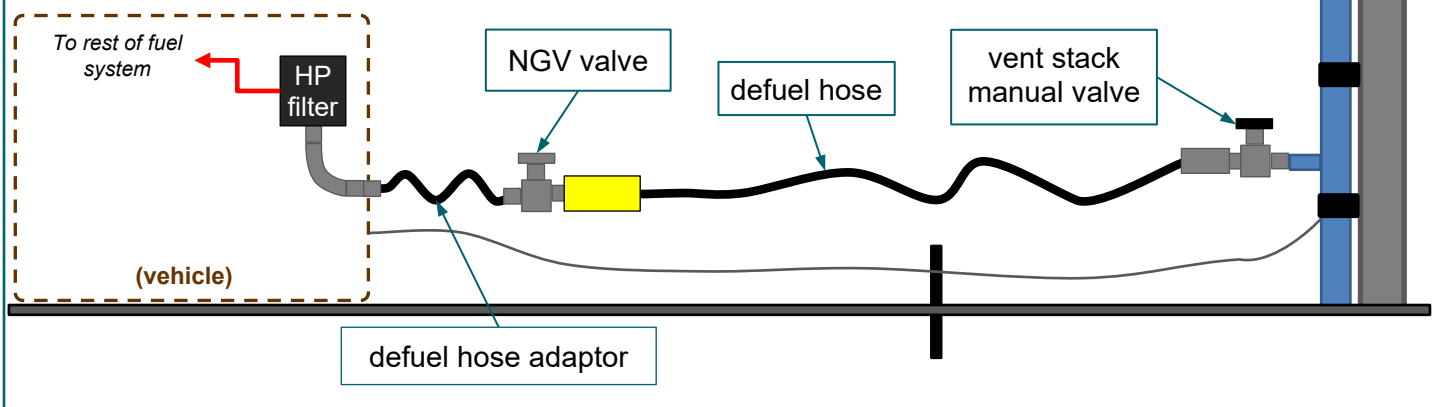

FIGURE 3–14. Defuel hose NGV connector end attached to vent stack manual valve
15. SLOWLY open vent stack manual valve. FIGURE 3–14